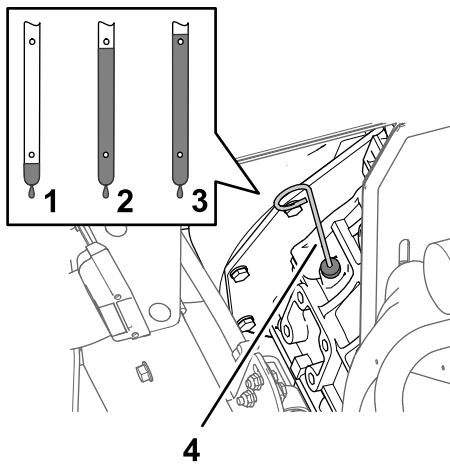

Figure 78
6. Remove the dipstick and check the oil level in the engine (Figure 78).
7. Slowly add additional specified oil to bring the oil level to the Full mark on the dipstick (Figure 78).